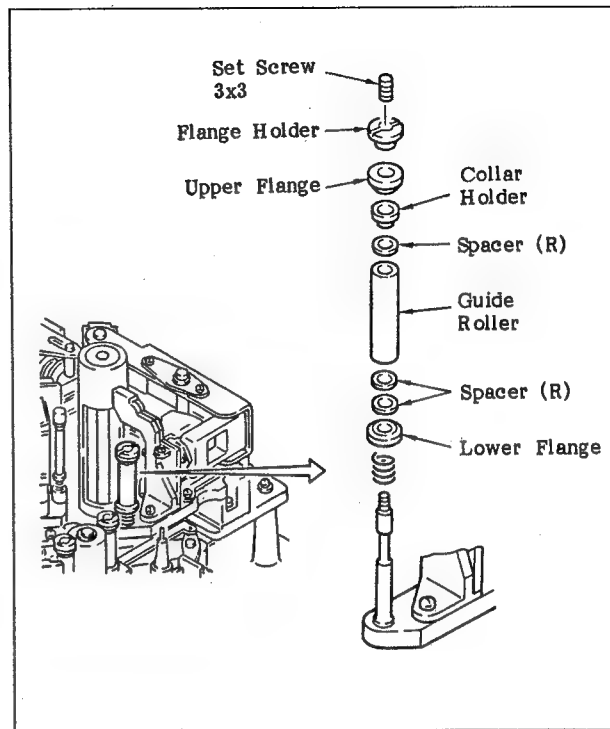

Fig. 6-123 Replacement of the T6 Guide Roller
1. Remove the guide roller by rotating the flange holder and replace the guide roller with a new one. (Figure 6-123)
3. If it is not satisfied, adjust it by changing the number of spacers (R) (Sony Part No. 3-715-809-11), shown in Figure 6-123.
**Note:** At least one spacer (R) must be inserted between the lower flange and the guide roller.